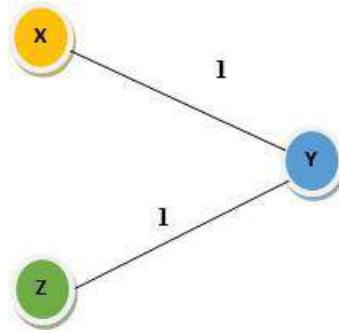

Figure 1.12 Sample Network of DSDV
- Consider a network (Figure 1.12) of 3 nodes having distances of “1” on each of the edges respectively. Below mentioned steps will let you know how DSDV works and routing tables are updated.